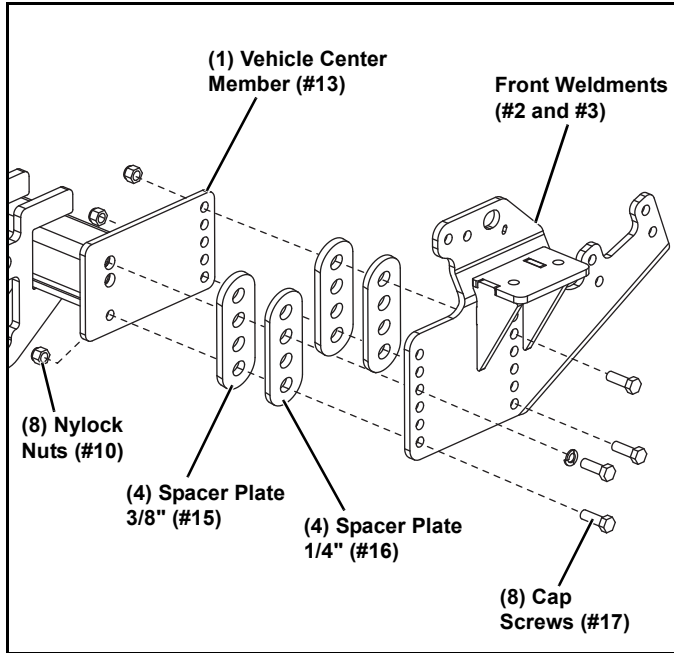

Figure 10
14. Attach the Vehicle Center Member (#1) to the Front Weldments, DS (#2) and PS (#3). Secure using (8) 1/2"-13 x 1-1/2" Cap Screws (#8), (2) 1/2" Lock Washers (#11) in the threaded holes and (6) 1/2"-13 Nylock Nuts (#10).
15. Skip step 15 if the Center Member fits. The 99101476 (#13) will replace the 99100891 (#1). Use the 1/4" and 3/8" Spacer Plates (#15 & 16) to take up any excess space between the Center Member (#13) and Front Weldments, DS (#2) and PS (#3). The (8) 1/2"-13 x 2" Cap Screws (#17) are only used if the 3/8" Spacer Plates (#15) are used (See Figure 10).